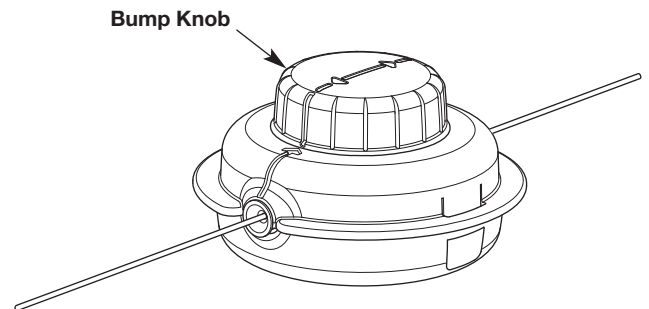

Fig. 3
5. Turn the bump knob to wind the line until about 5 inches (12.5 cm) protrude from each side of the cutting head (Fig. 3).